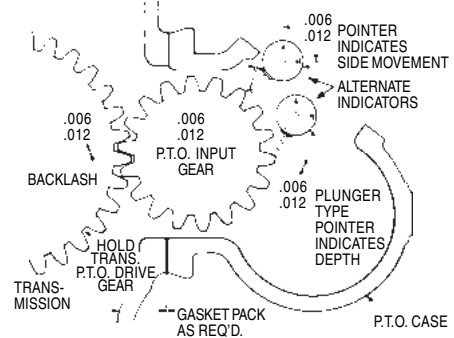

Fig. 11
**NOTE:** See Figure 11 for the proper location of the dial indicator's contact point. (Two common types of dial indicators are shown.)